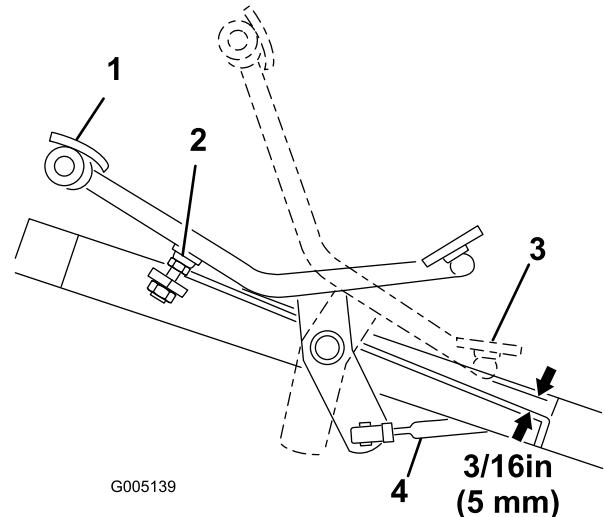

Figure 40
1. Press the traction pedal fully forward until the No. 5 section valve spool is completely pulled out. The pedal should contact the pedal stop (Figure 40).
2. Check the distance between the bottom of the pedal and footrest as shown in Figure 40. The distance should be approximately 3/16 in. (5 mm). If the
- Remove the jam nut and ball joint securing the control rod (Figure 40) to the traction shaft pivot.